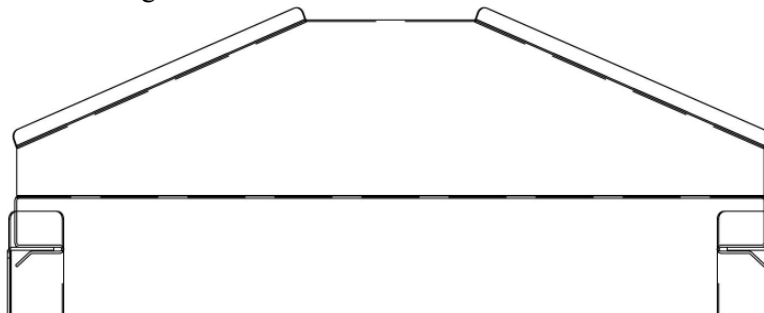

Fig. 3.
5. Position the second pan support rack into the cavity and slide the other mounting tab onto the rack flat bend while the pan support rack is not on the mounting studs. Hang the pan support by placing the rear key-way slot support onto the rear mounting stud and slide the rack until the slot sits on the mounting stud. When this is done correctly the front mounting stud will be in position to place the front key-way slot. Slide the rack down into its correct position. See Fig. 3.